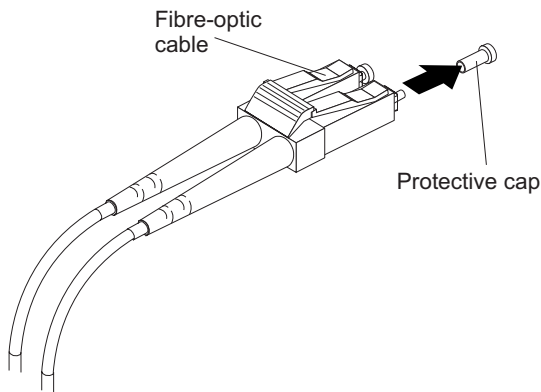

Figure 31. Removing fibre-optic cable protective caps
3. Remove the two protective caps from one end of the LC-LC cable, as shown in Figure 31 on page 52. Save the protective caps for future use.